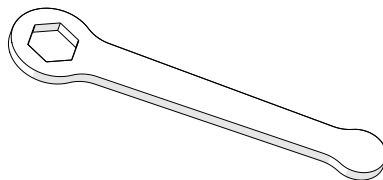
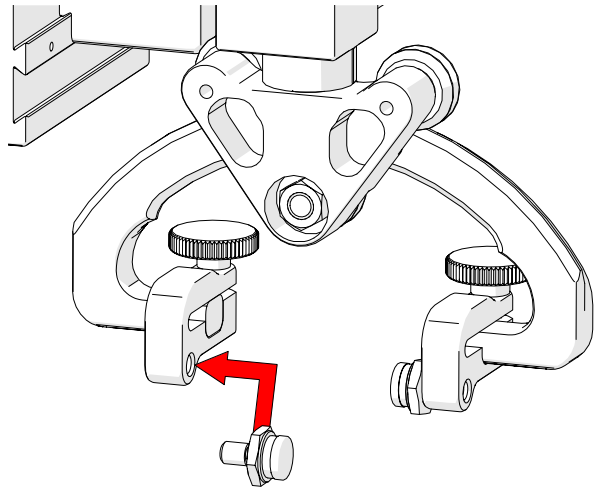

Fig. 27 - 3/8 in wrench
Fig. 42 - Attach pivot buttons
The 3/8 in wrench (*Fig. 27*) is used to remove and install pivot buttons on the probe holders.
1. Using the supplied 3/8 in wrench (Fig. 27), install the appropriate pivot buttons to the probe holder arms (Fig. 42).